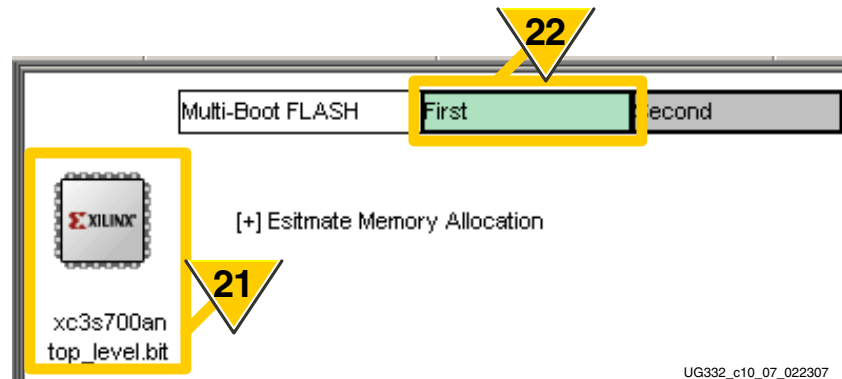

Figure 10-10: iMPACT View of the Spartan-3AN In-System Flash Memory
- As shown in Figure 10-10, the iMPACT software graphically displays the selected Spartan-3AN FPGA and any associated FPGA bitstream(s).